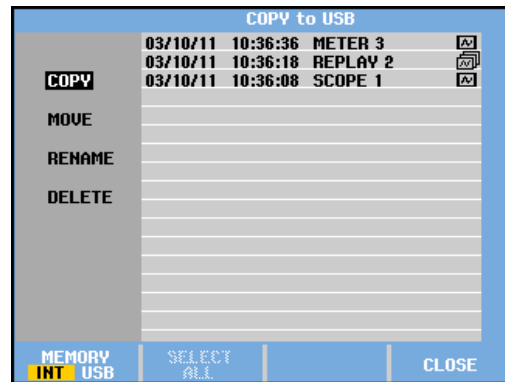

Figure 2.
- If you see the screen shown in Figure 2, continue at step 3.